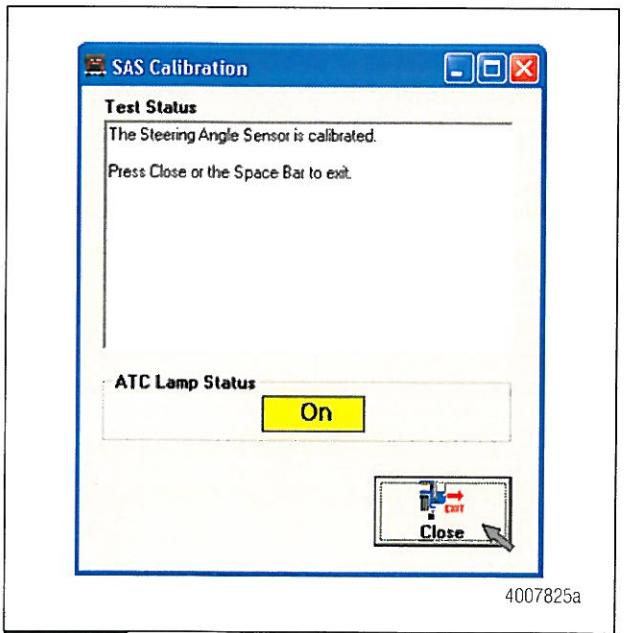

Figure 15
- The message box will indicate when the SAS has been calibrated. Once the SAS is calibrated, press Close or the space bar to continue. The ESC initialization procedure can now be performed. Figure 15.